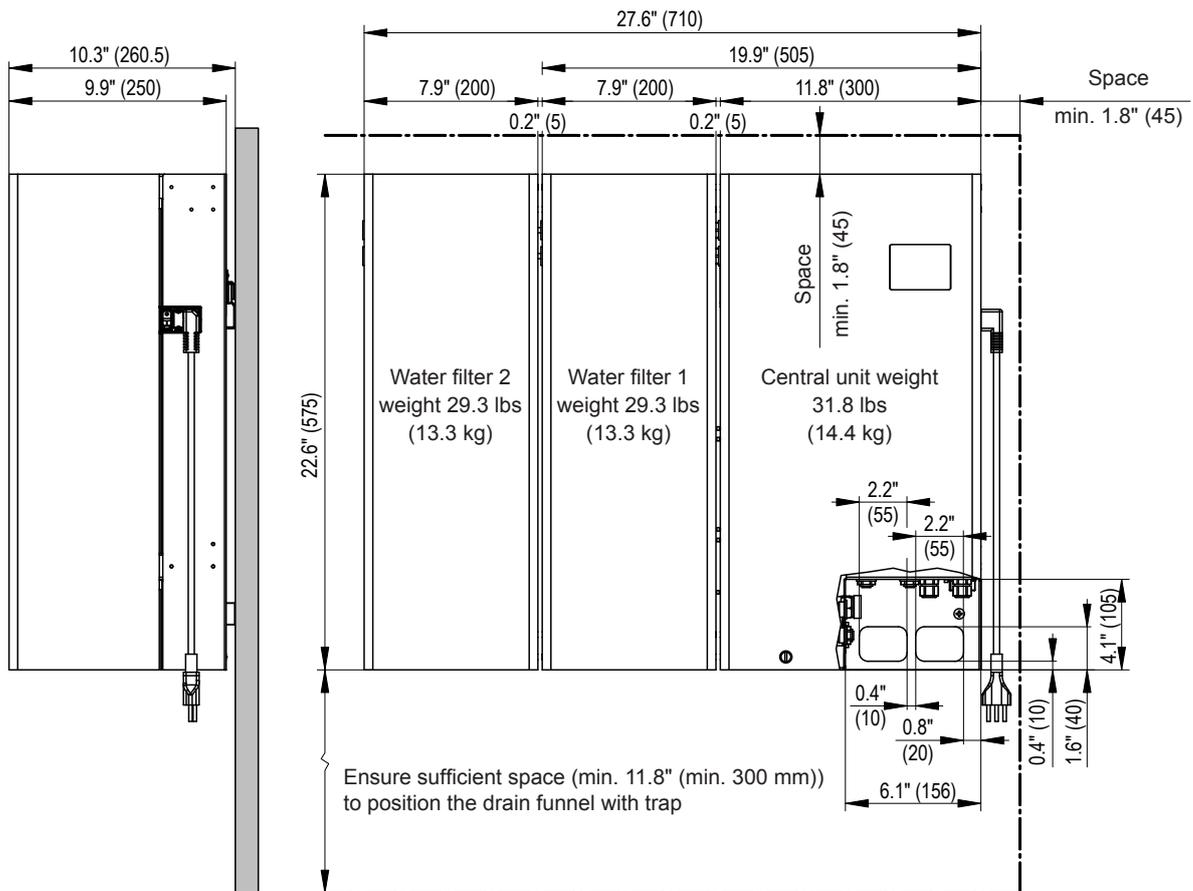

Fig. 8: Central unit and water filter dimensions (dimensions in inch (mm))
- There must be a sufficiently large free wall space to install the central unit and the water filter(s) (see Fig. 8).
Important: The wall that the central unit and the water filter(s) will be installed on must have a sufficient load-bearing capacity (see weight information in Fig. 8) and be suitable for the attachment.